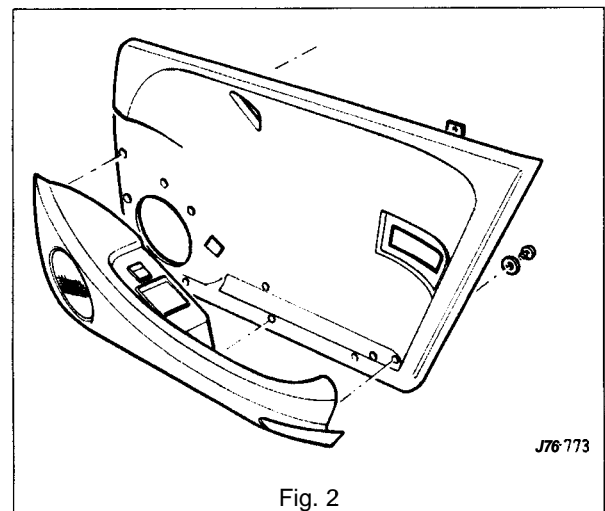

Fig. 2
- Displace and remove the window lift assembly end cover trim pad, Fig. 2.
- Disconnect the multi-plugs (1 Fig. 2) and remove the lamp.
- Disconnect the door speaker multi-plug (2 Fig. 2) and the window lift switch multi-plug (3 Fig. 2).
- Disconnect lamp multi-plugs (1 Fig. 2) and remove lamp.
- Undo and remove the rear door pocket to trim pad securing screws (Fig. 2). Remove the door pocket.